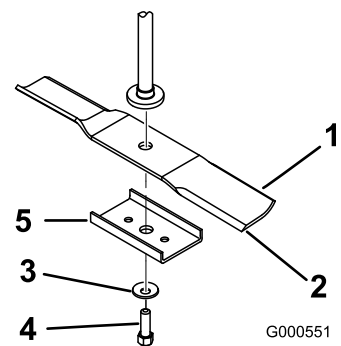

Figure 48
2. Remove the blade bolt, the curved washer, and the blade from the spindle shaft (Figure 48).
1. Install the blade onto the spindle shaft (Figure 48).
2. Install the curved washer (cupped side toward the blade) and the blade bolt (Figure 48).